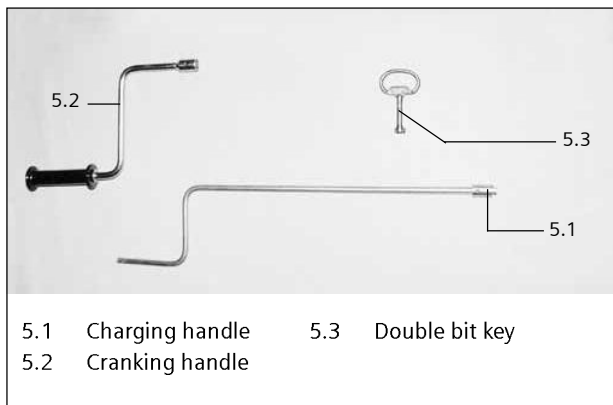

Fig 5: Accessories
1.2.2 Accessories (refer Fig. 5)